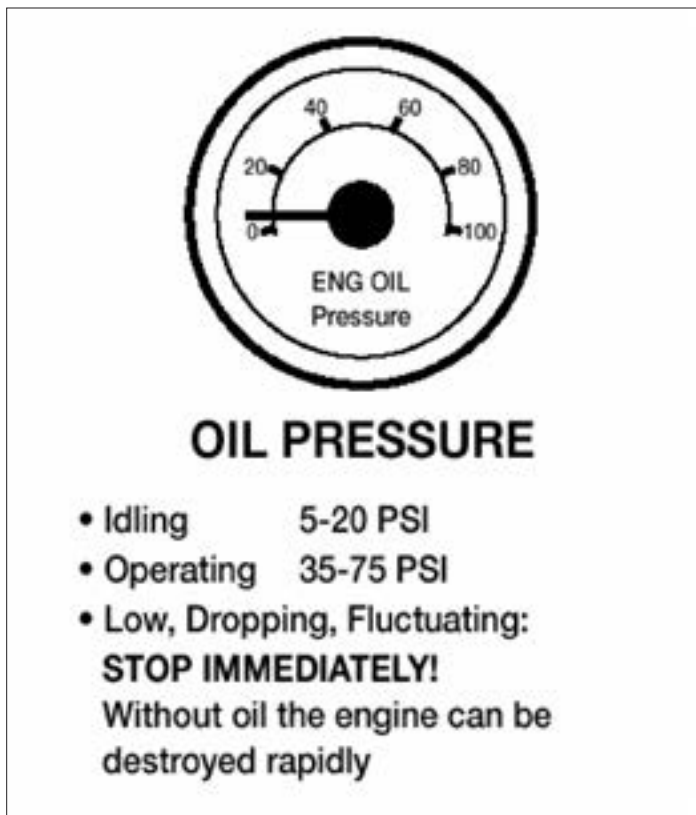

Figure 2.5
- Oil pressure. Should come up to normal within seconds after engine is started. See Figure 2.5